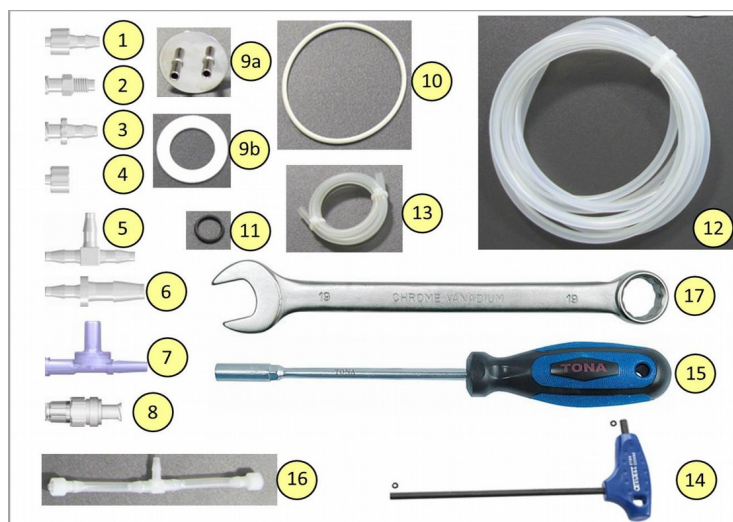

Fig. 4: Components of the spare part kit. Numbers correspond to component numbers in Table 3.
5. **Spare Part Kit*** – for the complete list of Spare Part Kit see Table 3 on page 13 and corresponding Fig. 4
Table 3: List of spare part kit components shown in Fig. 4